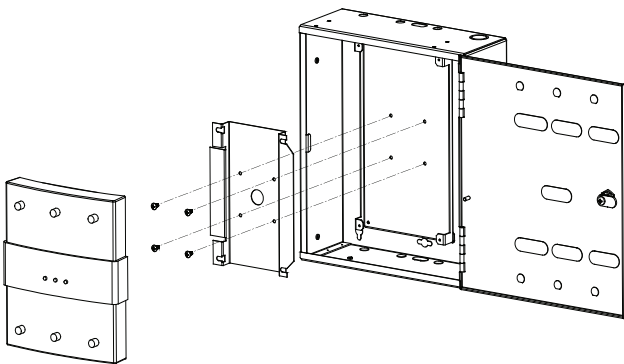

Figure 2.3
- 2.5 Install the bulkhead extender cables as shown in **Figure 2.3**.